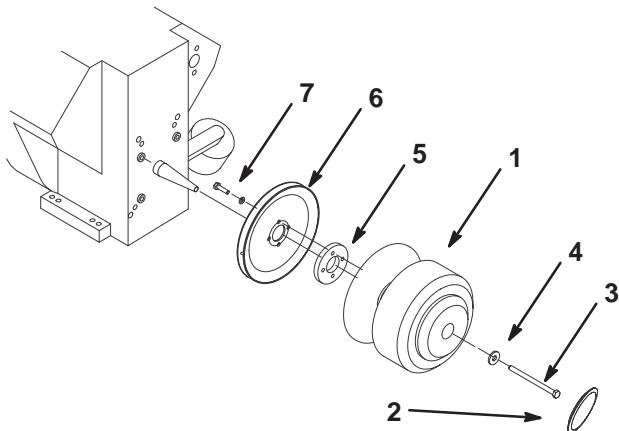

Figure 1
3. Remove the plastic cap from the drive clutch (Fig. 1).
4. Remove the bolt and washer securing the drive clutch to the engine tapered shaft (Fig. 1).
- Install the alternator drive pulley and spacer to the back of the drive clutch, as illustrated in Figure 1, using 4 bolts (1/4 x 1 inch) and lock washers (1/4 inch).